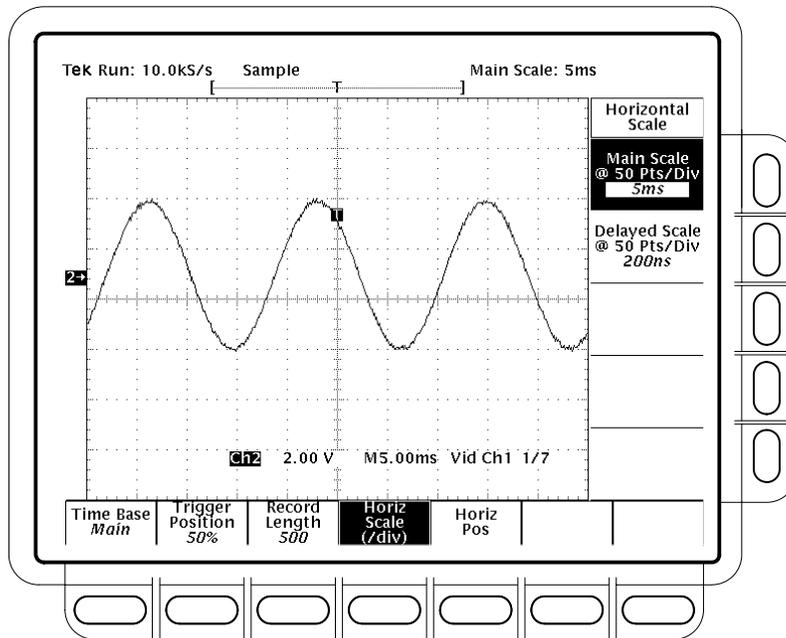

Figure 4-32: 60 Hz Rejection Test Setup Signal
- Adjust the signal generator for three vertical divisions of 60 Hz signal. See Figure 4-32. The signal will not be triggered. That is, it will run free.